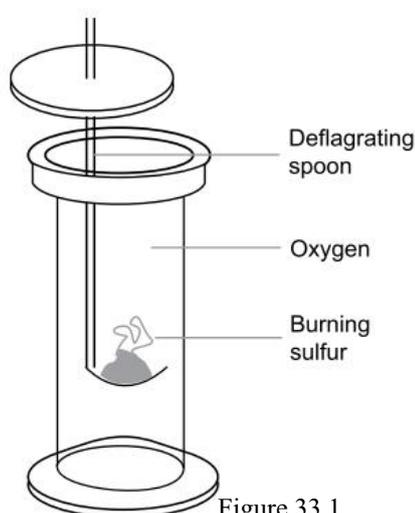

Figure 33.1
1. Set up the equipment to burn the sulfur and to collect the non-metal oxide, sulfur dioxide as shown in figure 33.1. Draw up a table to record your results and observations.